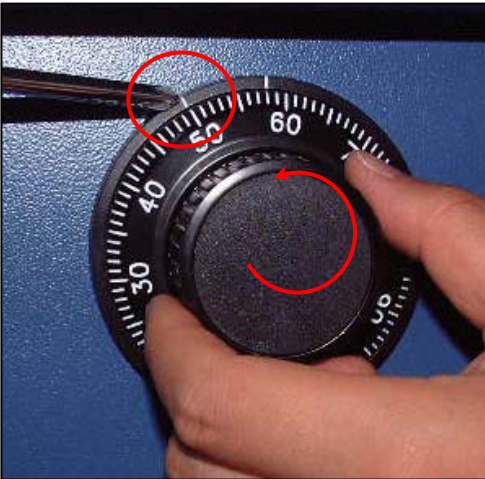

Fig.4.1
- 3) Turn to the counterclockwise for more than four times and set to "50" at left scale indicator as shown in the Fig.4.1.